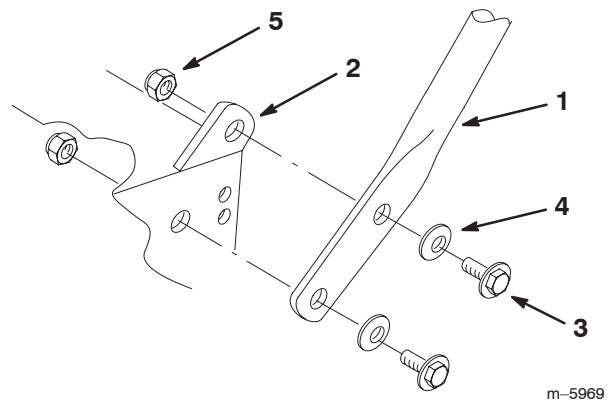

Figure 3
1. Align the holes in upper handle with the mounting holes in the rear frame and bracket (Fig. 3).
Important Install the flange bolts with the bolt head on the outside of the upper handle. Refer to figure 3.
2. Secure each leg of the upper handle to the rear frame and bracket with two flange bolts (3/8 x 1 inch (26 mm), spring washers and flange nuts (Fig. 3). Tighten until spring washers are compressed.